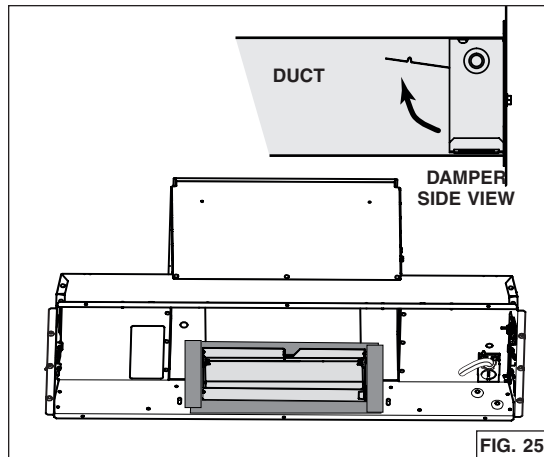

FIG. 25
- From inside the unit, slide the 3 1/4" x 10" adapter/damper in the horizontal duct, then attach it to the unit using aluminum duct tape all around the joint (FIG. 25). Ensure the damper opens as shown in damper side view.